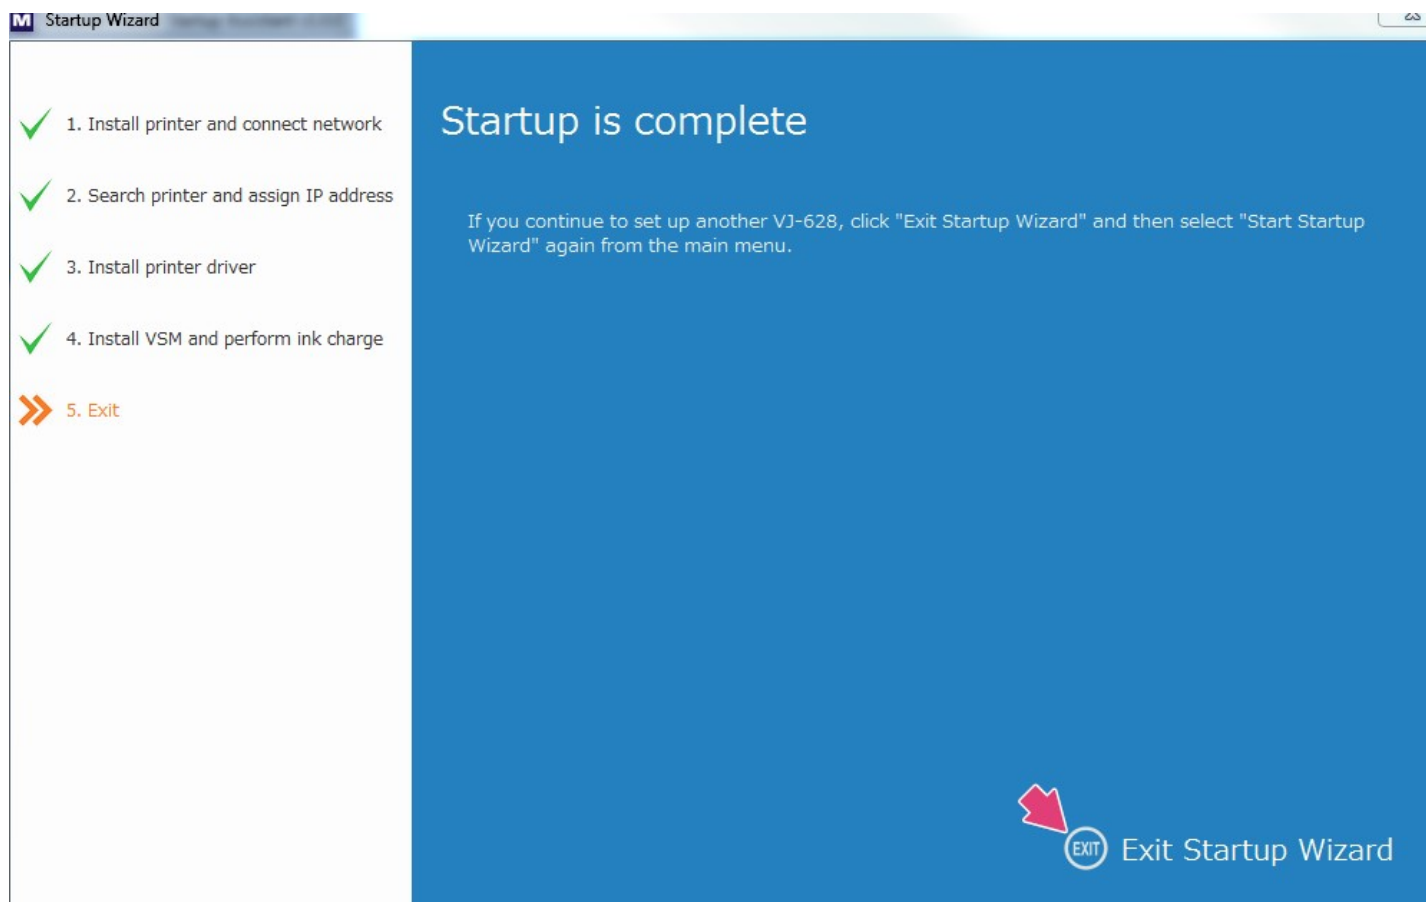

Figure 105
92. Startup is complete. Select **Exit Startup Wizard**. See Figure 105.